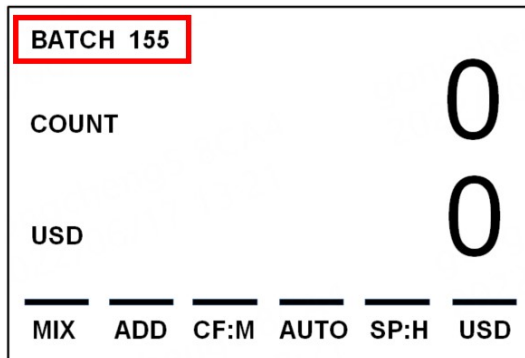

Figure 31
7) Press the "CLEAR/ESC" key to return to the main interface, and then press the "B:" key at the top of the display screen to switch to the previously set number of 155, as shown in Figure 31 below: